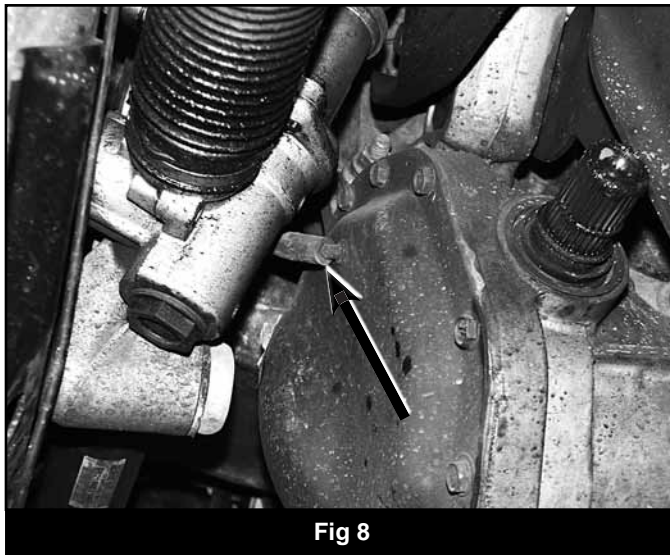

Fig 8
25. Disconnect the vent hose and wiring (if equipped) from the differential (Fig 8).